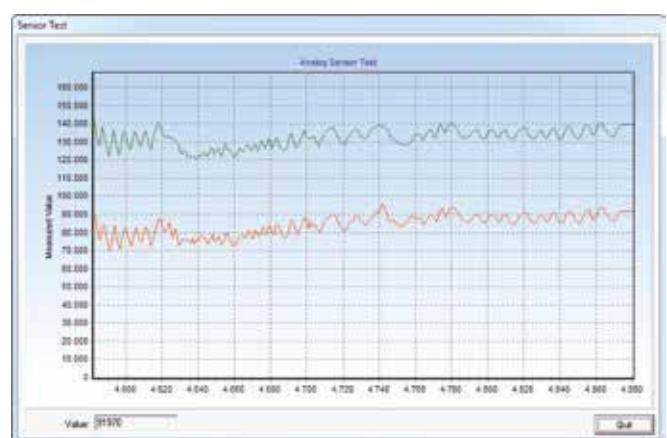

Fig. 44: Sensor Test diagram of analog sensor with 2 position magnets
- ⑨ Menu **Test Sensor** provides a data display (Fig. 44), which shows the absolute positions of the position magnets. Compared with the sensor measuring rate, serial data transmission between sensor and PC is relatively slow, i.e. not every actually measured value can be displayed. For this reason, only every 50th measurement value appears in the diagram.